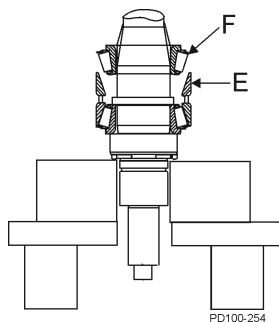

Figure 81 - Install Upper Cup & Upper Cone
5. Place the upper cup (Figure 81, item E) on top of the outer spacer.
6. Lubricate the remaining upper cone and roller assembly (Figure 81, item F) with oil or grease and slip it over the shaft with the roller radius facing up. Press it onto the shaft and into the upper cup.